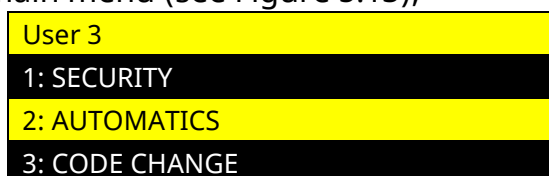

Figure 5.13 – User main menu
- 2) go to the user main menu (see Figure 5.13);